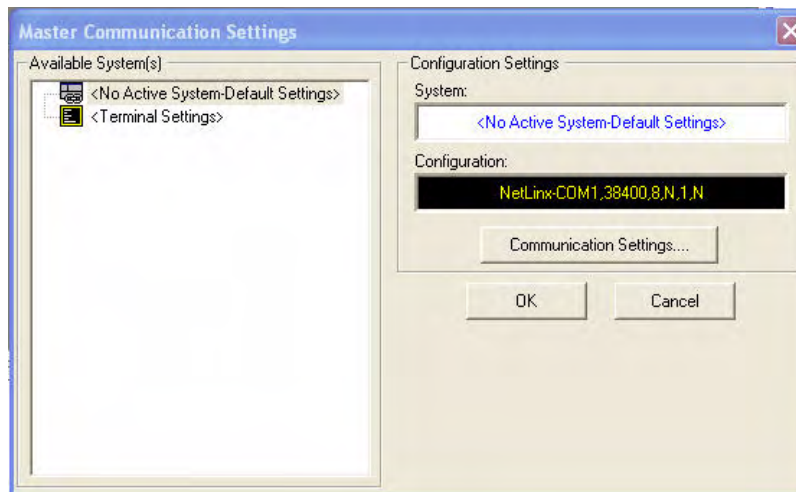

FIG. 39 Master Communications Settings dialog box
2. In NetLinx Studio, select **Settings > Master Communication Settings** from the *Main* menu to open the *Master Communication Settings* dialog (FIG. 39).